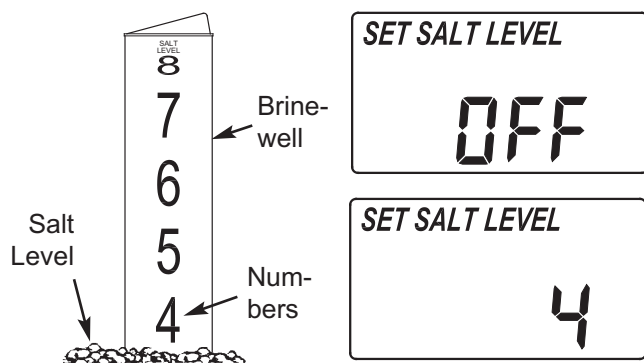

FIG. 32
2. The salt level scale, on the brine well inside the tank, has numbers from 0 to 8 (See Fig. 32). Observe the highest number the leveled salt is at, or closest to.